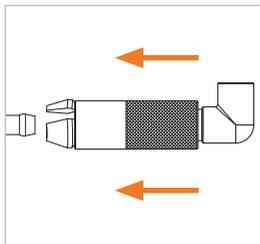

Figure 1
- ▶ Push the connector at the sliding sleeve (Pos. 1) forward onto the test piece (Figure 1). The connector must engage with a clearly audible click. The retaining ring must be visible (Figure 2) and the outer edges of the external diameter of the clamping jaws must no longer be visible (Figure 3 and Figure 4).